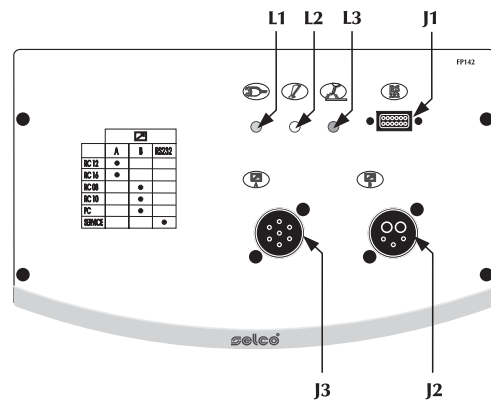

Fig.1
2.1.1 Front control panel FP142 (Fig. 1)